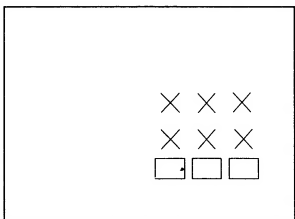

fig. 11
- Adjust the screen VR (G2) to obtain value of 20-40, three values for RGB appear on the screen (fig. 11).